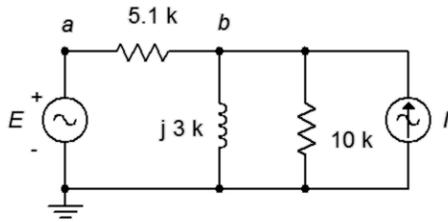

Figure 5.13
25. Use Superposition to determine  $v_b$  in the circuit of Figure 5.13.  $I = 3E-3\angle 0^\circ$  and  $E = 9\angle 0^\circ$ .
26. Use Superposition to determine the inductor current in the circuit of Figure 5.13.  $I = 4E-3\angle 0^\circ$  and  $E = 18\angle -45^\circ$ .